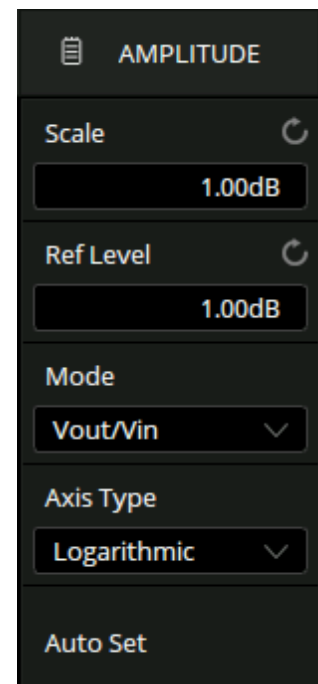

Figure 19.24 PSRR Amplitude Menu
1. Touch **Amplitude** to display the signal menu shown in figure 19.24.